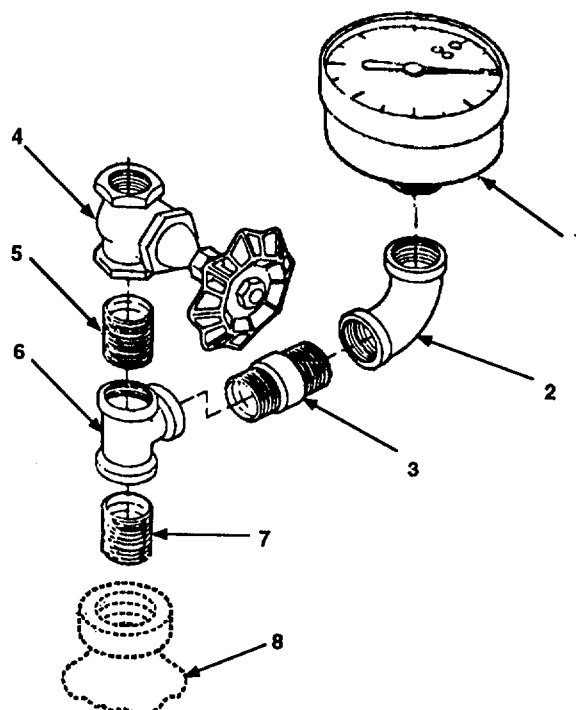

Figure 4-16. Pressure Gauge and Fill Assembly Maintenance.
- a. Remove pressure gauge (Figure 4-16, 1) from elbow (2).
- b. Remove elbow (2) from nipple (3).
- c. Remove globe valve (4) from close nipple (5).
- d. Remove close nipple (5) from pipe tee (6).
- e. Remove pipe tee (6) from close nipple (7).
- f. Remove close nipple (7) from inlet nipple (8).